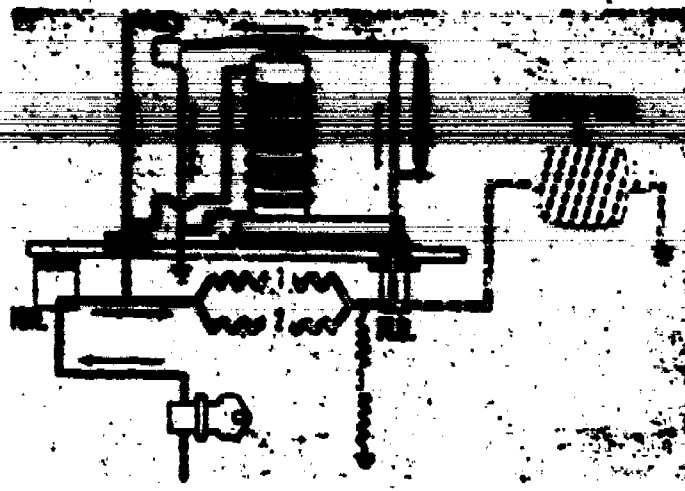

Figure 141. Voltage Regulator Circuits - Lower Contact Closed.
When electrical load demand is low and engine speed is high, the alternator voltage tries to increase beyond safe limits. However, the increased voltage acting on the voltage coil causes the moveable contact to close on the lower contact. Current flow is through resistors (1) and (2) to the field terminal of the regulator. Resistance through the regulator armature to the moveable contact and thence through the lower contact to ground, figure 141, is much lower than the resistance of the rotor coil. The alternator field circuit is momentarily bypassed, dropping alternator output when the lower contact circuit is completed.